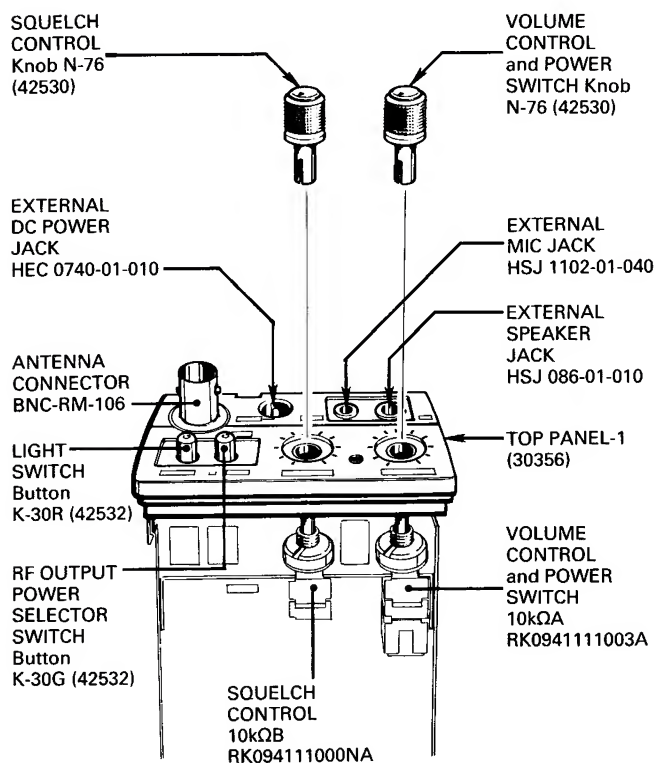
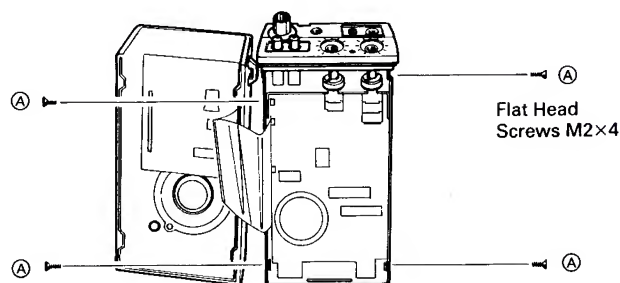

Fig. 5-1-5
Fig. 5-1-6
5. To see the foil sides of the MAIN and PLL UNITS, remove the SQUELCH CONTROL and VOLUME CONTROL and POWER SWITCH knobs as shown in Fig. 5-1-5. Remove the four screws (A) on the sides of the inner frame as shown in Fig. 5-1-6.